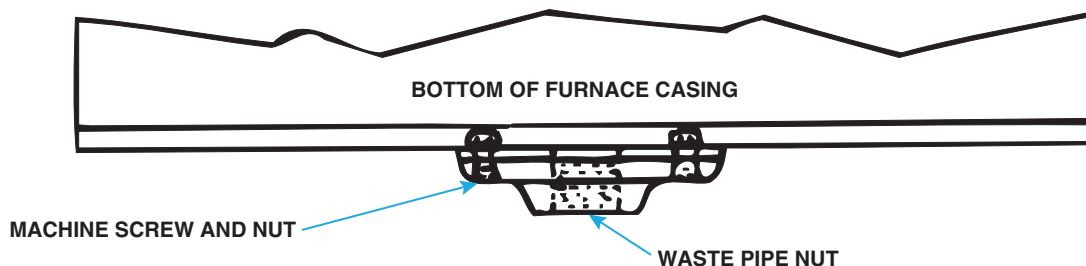

Figure 8. Condensate Drain
1. Install drain flange in bottom of furnace casing as shown in Figure 8 and secure using two machine screws (#10-32 × 1-inch-long) and nuts.